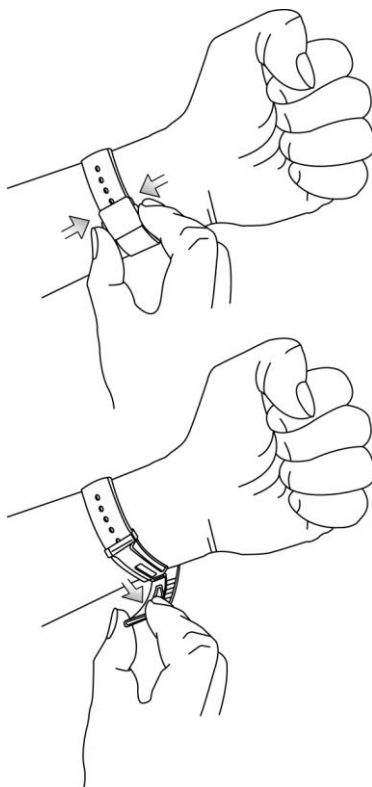

Figure 7. Taking off the oCare™ Pro 100
1. Pinch the pins on both sides of the metal watch clasp as illustrated in **Figure 7**.